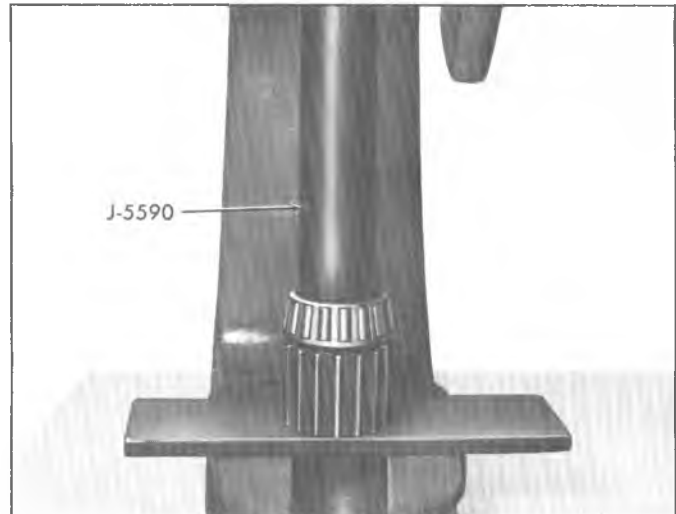

Fig. 9D-Installing Rear Output Shaft Front Bearing
- Using Tool J-5590, press front bearing on shaft as shown in Figure 9D.